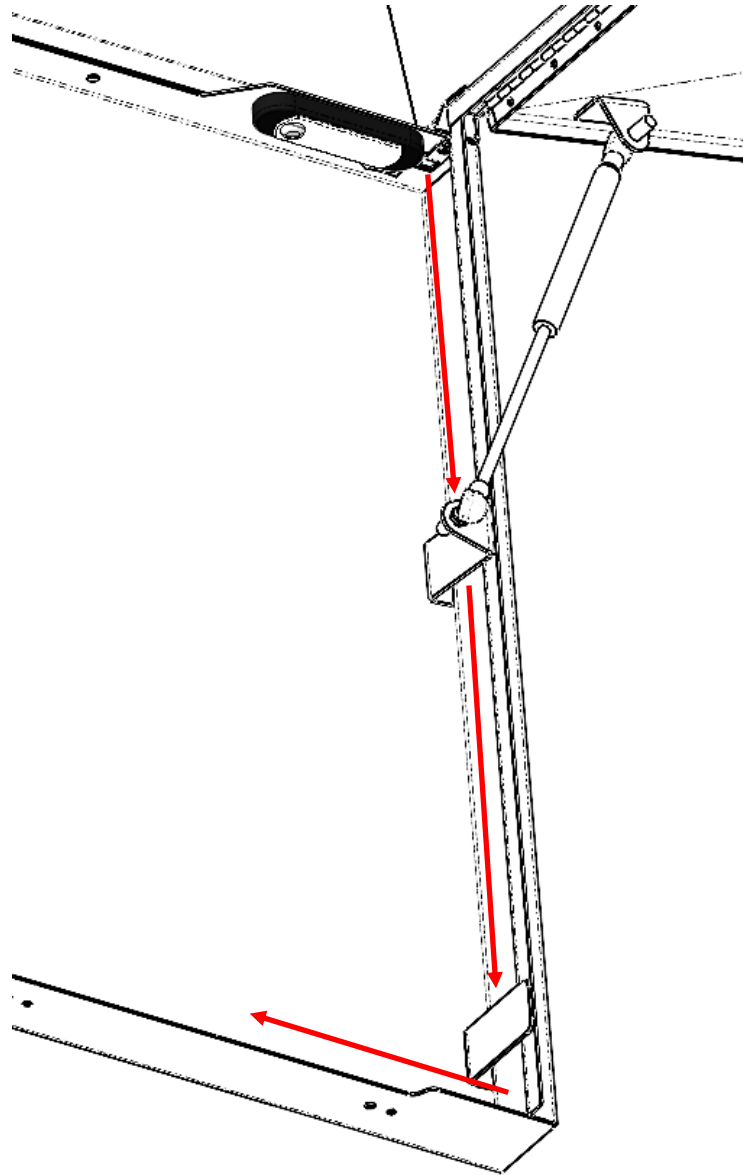
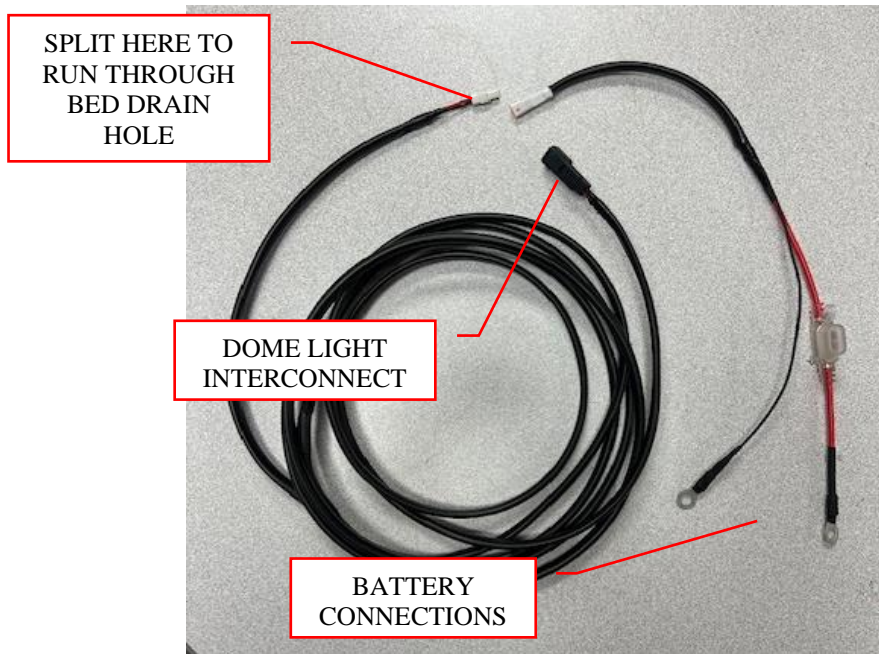

Figure 8: Run the dome light harness on the top.
Figure 9: Wire harness connections.
6. Plug the dome light harness into the dome light. Run the other end of the dome light wire harness through the hole in the roof flange next to the dome light and down the back wall behind the gas shock bracket and latch bracket. Note: You must separate the harness so the small connector can pass through the tight spaces and make running the harness easier. See Figure 8 and Figure 9.